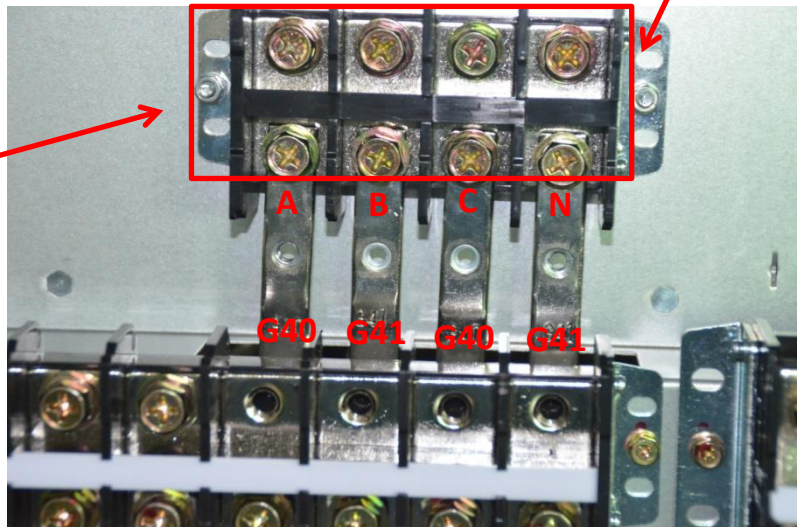

Figure 2 Bypass input terminals
2. Install the bypass input terminals and G40/G41 copper bar, as is shown in figure 2 and 3.